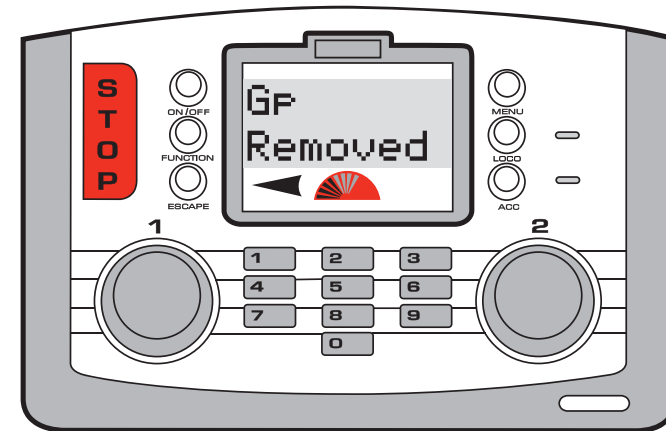

Fig 1
5. Screen will then show in sequence "Dissolve Adr: 10", "Adr: 01", "Adr: 02", and finally the screen will show "Gp Removed". See Fig 1. If an attempt is made to dissolve a Consist which does not exist the screen will display "No Member".